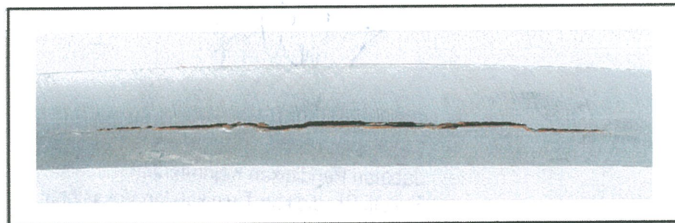

Figure Q2(c): Front view of cross-section of a defect
- S1** (a) State and explain three (3) reasons for using destructive test in welding. (6 marks)
- (b) What are the three (3) differences between Charpy test and Izod test. (6 marks)
- Q2** (a) State three (3) reasons for using Non-Destructive Test (NDT) and list three (3) types of defect that can be detected by NDT. (6 marks)
- (b) List down three (3) benefits and limitations of NDT. (6 marks)
- (c) Figure Q2(c) illustrates a type of defect in a test-piece.
- (i) What type of defect is shown in Figure Q2(c)? (2 marks)
- (iii) State three (3) advantages of the suggested test. (3 marks)